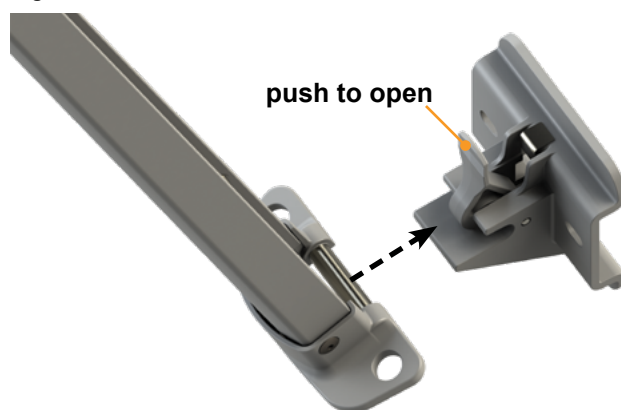

Fig.8
8. Lift the support arm assembly up and secure the feet into the previously installed bottom mounting brackets by pressing the lever and opening the latch (Fig.8).